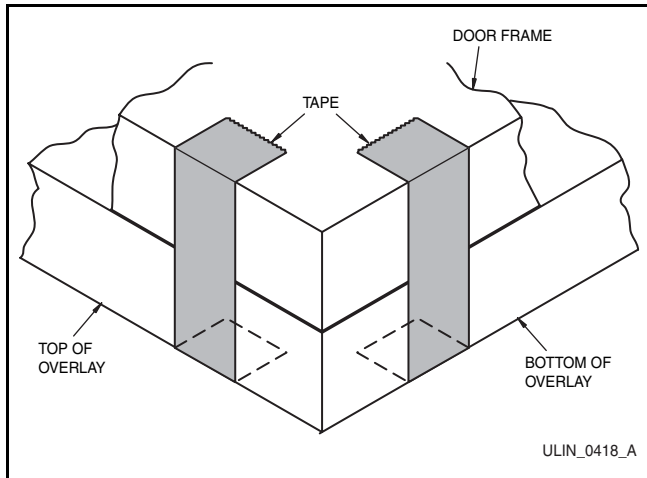

Figure 17
11. Secure door to the back of the wood overlay using tape on all four corners. Make sure all four edges are aligned (**Figure 17**).